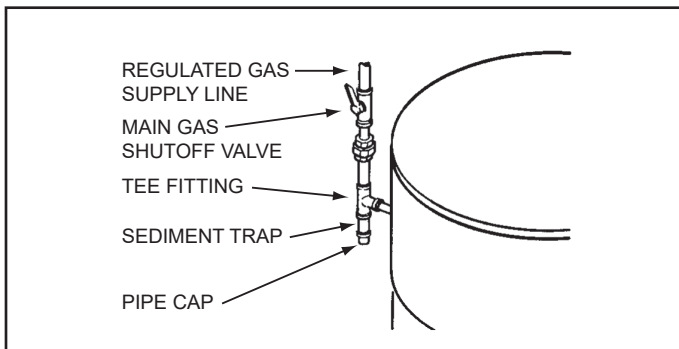

Figure 69. Supply Gas Line Installation
Ensure that all gas pipe is clean on the inside before installation. To trap any dirt or foreign material in the gas supply line a sediment trap must be installed as shown in **Figure 69**. The sediment trap must be readily accessible and not subject to freezing conditions. Install in accordance with the recommendations of the local gas utility company
6. Install a sediment trap as shown in **Figure 69** (page 51).
7. Install a Main Gas Shutoff valve in the supply gas line as shown in **Figure 69** (page 51).